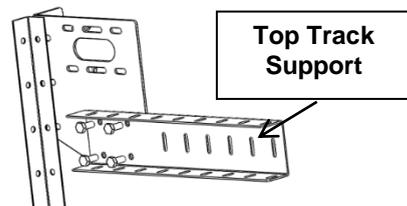

Figure 10 Attach upper track support to bearing bracket
8. Attach the top track support to the bearing bracket using 3/8"-16x1" hex head bolts and 3/8"-16 Nylock nuts for each side (**Figure 10**)